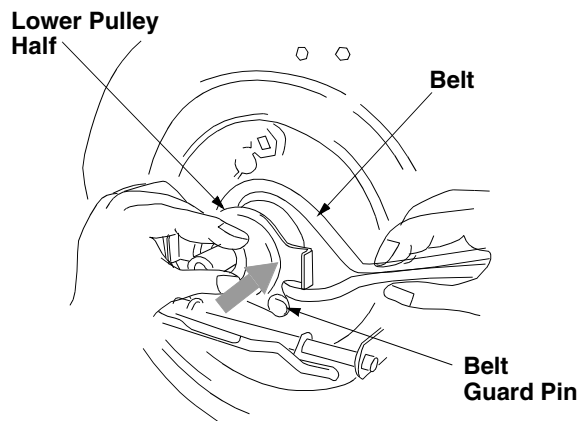

Figure 24
- Pinch both sides of the belt together so that the belt is not in the pulley groove, and the lower pulley can be pushed towards the engine. See Figure 24.